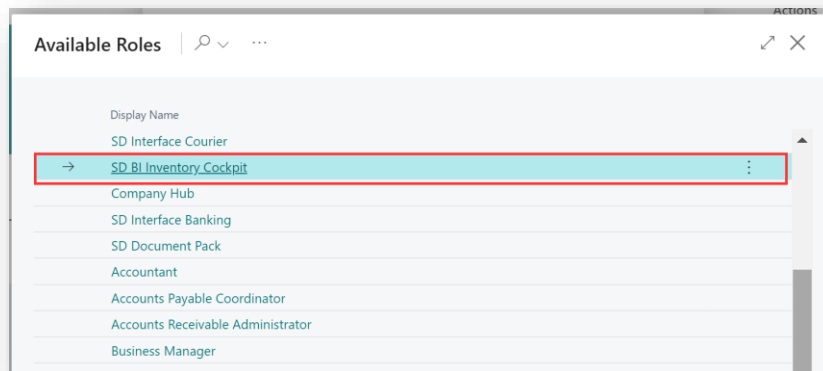

Figure 3-4
3. You should see **SD BI Inventory Cockpit Manager** in the list of Roles (Figure 3-4).